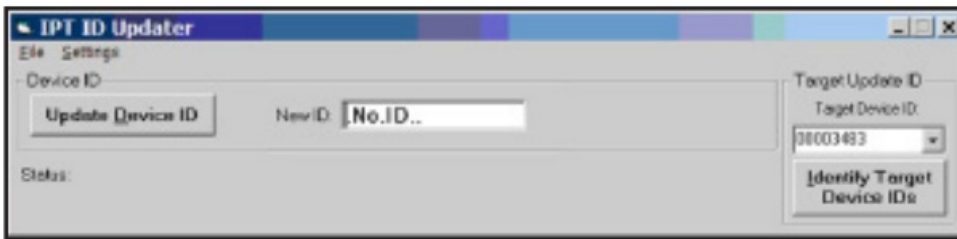

FIGURE 9
8. Type in the new ID. User any combination of numbers and letters (upper and lower case) up to a maximum of eight (8) characters long. Click “Update Device ID.” See FIGURE 9. If you type in too many characters, a RED Status screen will appear.
9. If the SEMS II REPEATER UNIT times-out, you will see the screen shown in FIGURE 9. Return to Step 3 to reactivate the Transmit Mode and proceed as above.